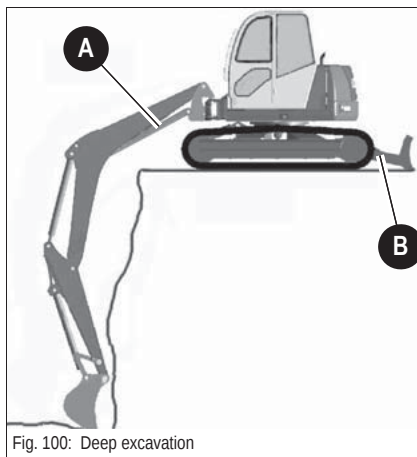

Fig. 100: Deep excavation
- ☞ Use this work position (Fig. 100) only in an extreme emergency since the machine can tilt forwards into the trench.